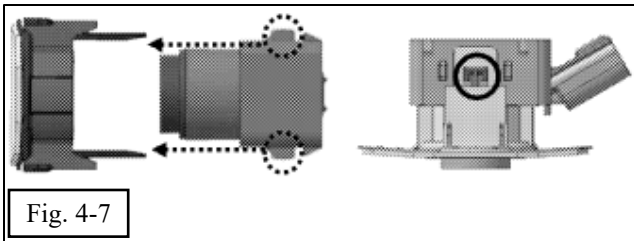

Fig. 4-7
- (e) Install the provided Parking Sonars in each of the 4 locations (Fig. 4-7).